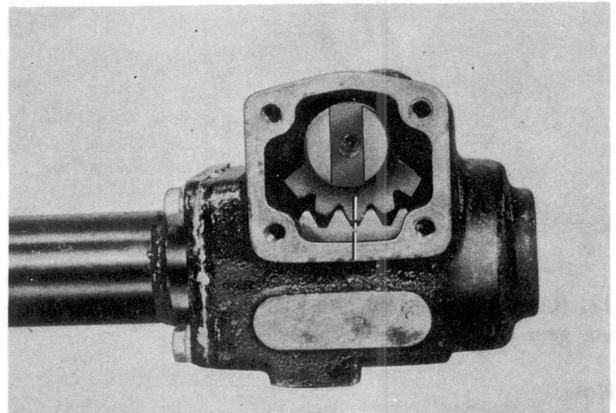

Fig. 10-10 Position sector gear and worm gear
5. Insert the sector shaft into the gear housing, being careful not to damage the oil seal, and ensuring that the center of the sector gear is in alignment with the center of the worm gear as shown in Fig. 10-10.